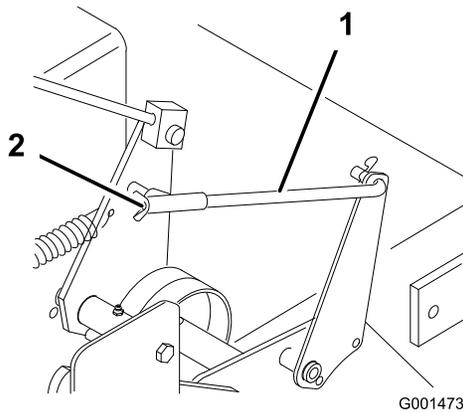

Figure 37
5. To adjust the brake, rotate the wing nuts on the brake rods (Figure 37). Turn the wing nuts clockwise to tighten the brake and counterclockwise to loosen the brake.